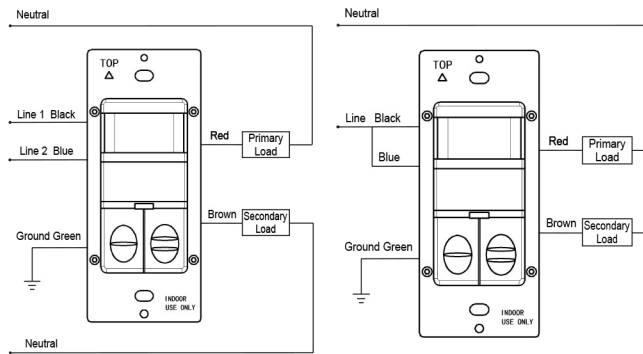

Figure 2
1. Connect lead wires as WIRING DIAGRAM (see Figure 2): Black lead to Line 1 (Hot), Blue lead to Line 2 (Hot), Red lead to Primary Load wire, Brown lead to Secondary Load wire, Green lead to Ground.